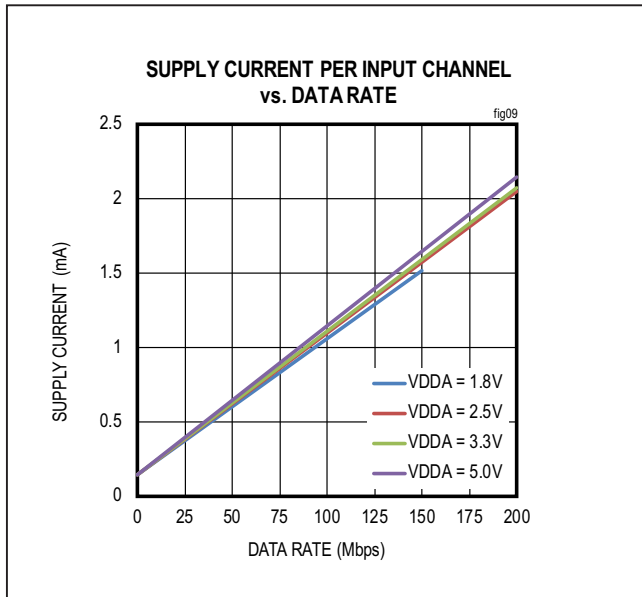
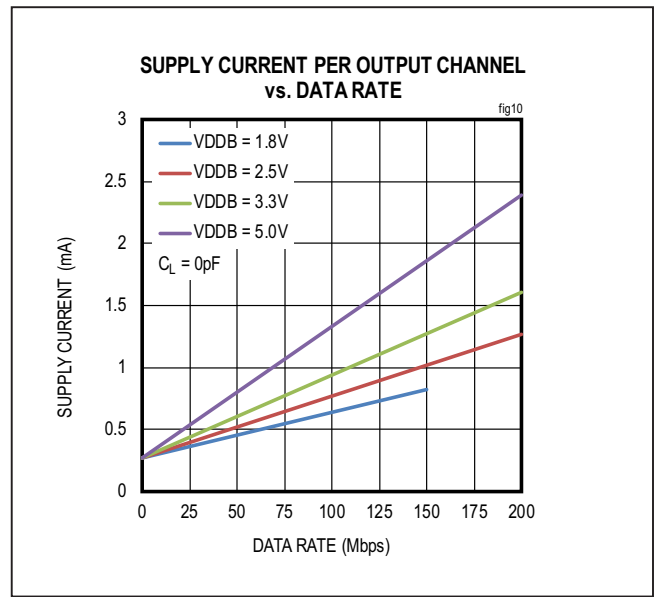

Figure 9. Supply Current Per Input Channel (Estimated)
Figure 10. Supply Current Per Output Channel (Estimated)
The required current for a given supply (VDDA or VDDB) can be estimated by summing the current required for each channel. The supply current for a channel depends on whether the channel is an input or an output, the channel’s data rate, and the capacitive or resistive load if it is an output. The typical current for an input or output at any data rate can be estimated from the graphs in Figure 9 and Figure 10. Please note the data in Figure 9 and Figure 10 are extrapolated from the supply current measurements in a typical operating condition.
The total current for a single channel is the sum of the “no load” current (shown in Figure 9 and Figure 10) which is a function of Voltage and Data Rate, and the “load current,” which depends on the type of load. Current into a capacitive load is a function of the load capacitance, the switching frequency, and the supply voltage.
- Channel 1 is an input channel operating at 2.5V and 20Mbps, consuming 0.33mA, estimated from Figure 9.
- Channel 2 and 3 are input channels operating at 2.5V with DC signal, consuming 0.14mA, estimated from Figure 9.
- Channel 4 is an output channel operating at 2.5V and 100Mbps, consuming 0.77mA, estimated from Figure 10.
- Channel 1 is an output channel operating at 3.3V and 20Mbps, consuming 0.40mA, estimated from Figure 10.
- Channel 2 and 3 are output channels operating at 3.3V with DC signal, consuming 0.27mA, estimated from Figure 10.
- Channel 4 is an input channel operating at 3.3V and 100Mbps, consuming 1.11mA, estimated from Figure 9.